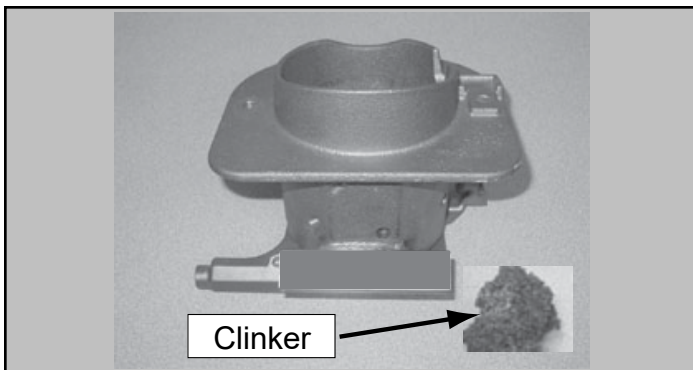

Figure 20.2 - Fire pot with large clinker
- d. It may be necessary to use your fire pot clean-out tool to chip away material that has built up on the sides of the fire pot and to push out any clinkers (**Figure 20.2**).